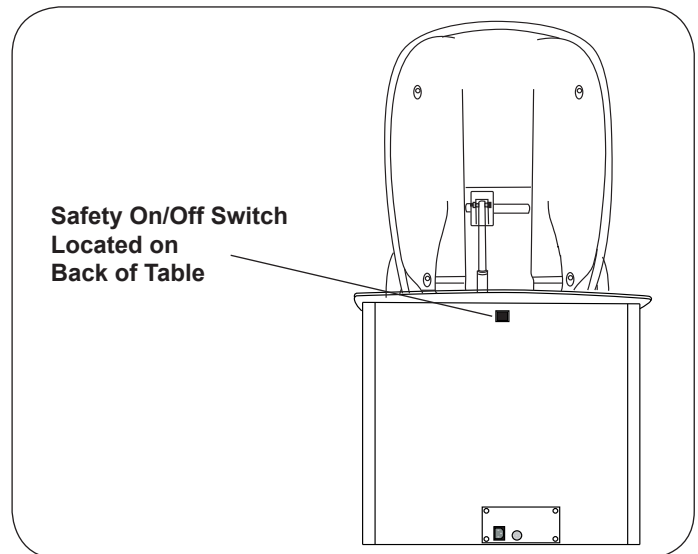

Figure 14. On/Off Safety Switch
7. Make sure the black On/Off Switch at the back of the table is on (Figure 14).
All models are equipped with safety switches. They are located inside the backrest cover, on the seat back and on the bottom of the chair assembly. Each safety switch automatically stops the lowering function if an obstruction is encountered (Figure 14).
The On/Off switch (located on the back of the rear cabinet, Figure 14) can be set to the OFF position to disable all movement of the table. Power to the drawer warmer (if so equipped) and other portions of the table will remain on.